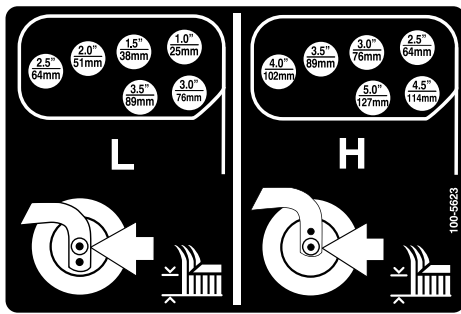

Figure 25
7. Rotate the tension rod to raise or lower the pivot arm until the holes are aligned with the selected height-of-cut bracket holes in the mower-deck frame (Figure 24 and Figure 25).